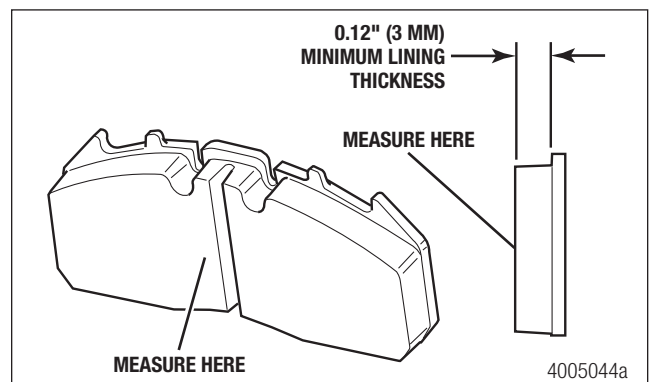

Figure 4.14
9. Measure the friction material thickness from the center of the brake pad. Replace brake pad assemblies before the lining thickness reaches 0.12" (3 mm). Figure 4.14.